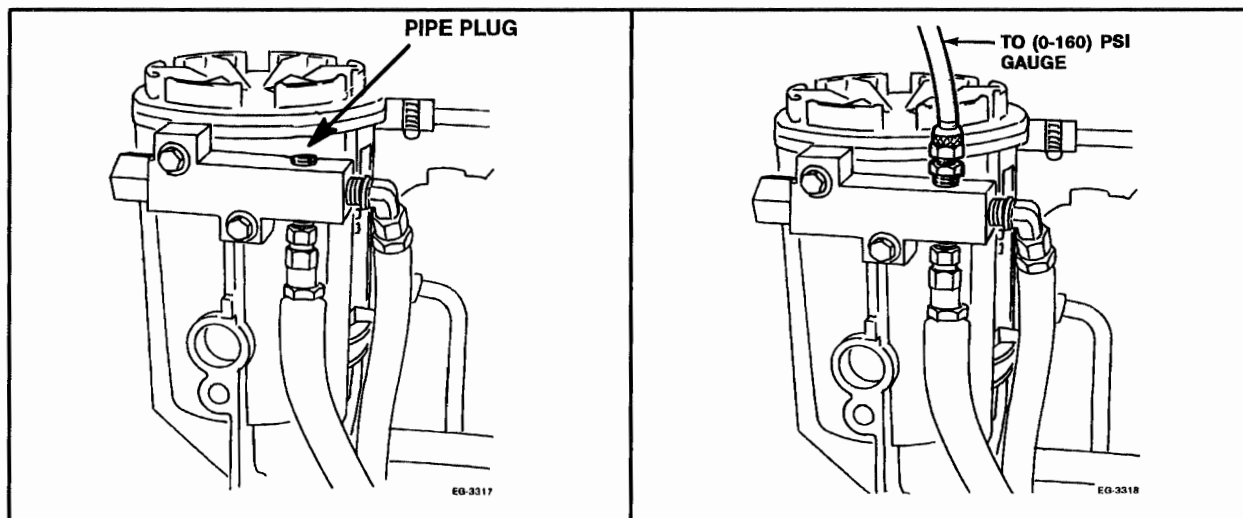

Figure 2.3-11. – Fuel Pressure Tap Location
1. Remove 1/8" pipe plug located on the fuel regulator block. **(Figure 2.3-11.)** Install 1/8 inch (3 mm) pipe fitting in place of the pipe plug.
2. Connect a line **(Figure 2.3-11.)** from the fitting to the 0–160 PSI gauge of the Model D-200 Pressure Test Kit (ZTSE-2239). Start engine